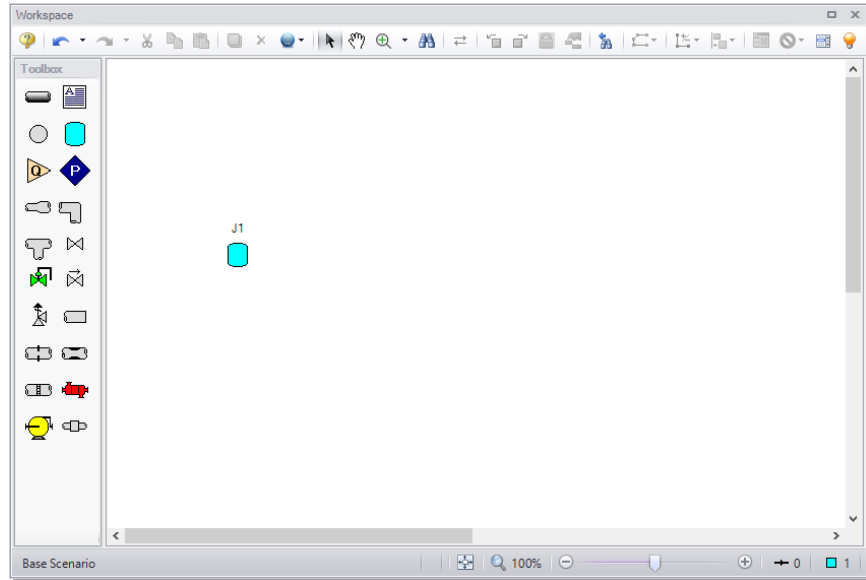

Figure 2.5a Tank junction placed
- **To start, click and drag a Tank junction from the Toolbox** and drop it on the Workspace. Figure 2.5a shows the Workspace with one Tank.